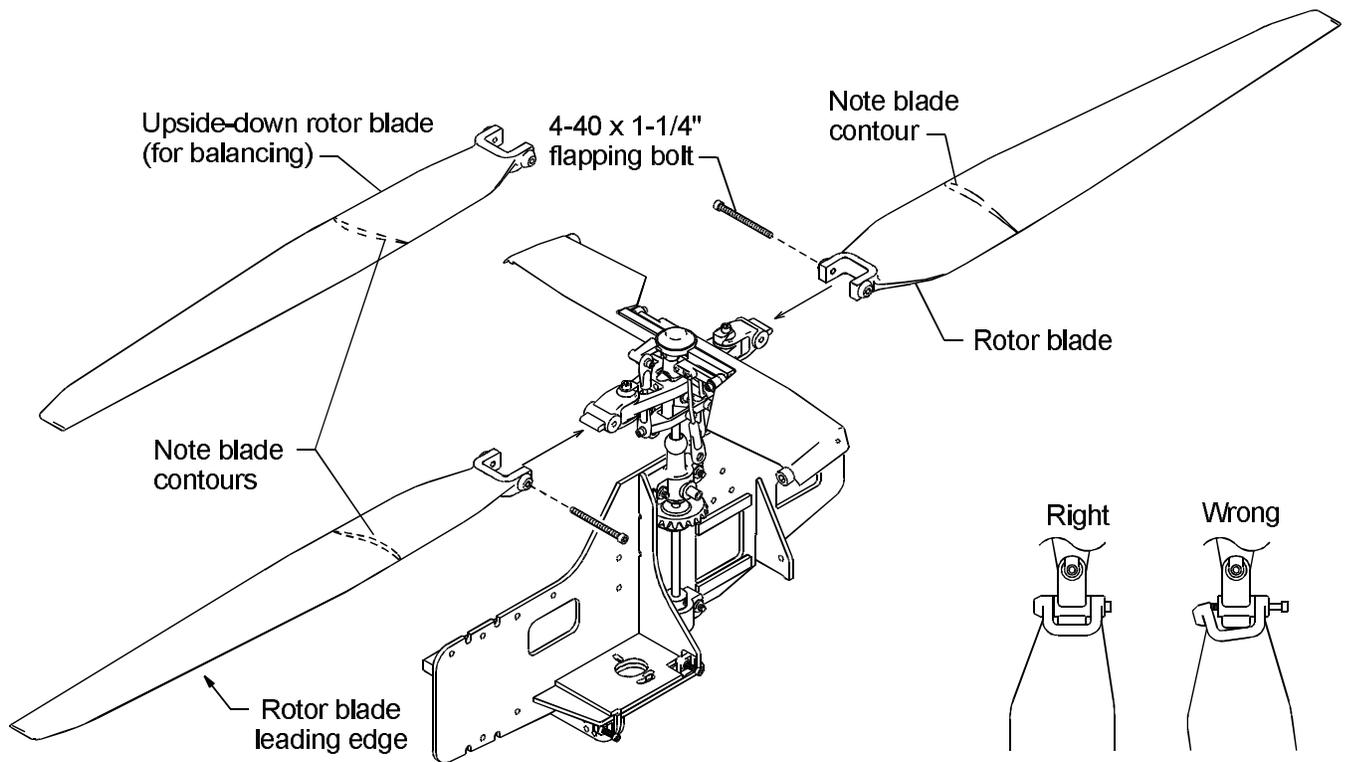

Figure 8-13.
- ❑ 30. As illustrated by Fig. 8-13, bolt the rotor blades to the blade grips on the main rotor assembly with 1-1/4" (32mm) flapping bolts. These are called flapping bolts because the rotor blades flap upward and downward on these bolts in flight. **ATTACH ONE BLADE RIGHTSIDE-UP AND ONE UPSIDE-DOWN.** Balancing the rotor is easier when one blade is mounted upside-down. You will reverse the upside-down blade after balancing the rotor.
- ❑ 33. Now that the blades are balanced, remove the upside-down blade and bolt it on rightside-up (with the cupped surface facing the crutch). Make sure the flapping bolt passes completely through both sides of the rotor blade root as shown in Fig. 8-13.